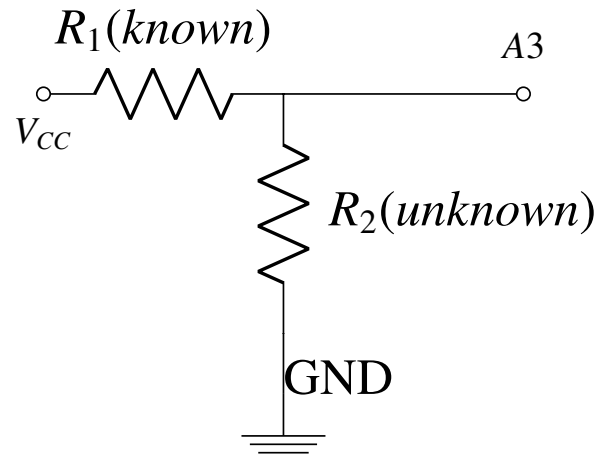

Fig. 2.1
**Problem 2.1.** Make the pin connections as in Table 2. Also connect the Resistors  $R_1$  and  $R_2$  according to Fig. 2.1.